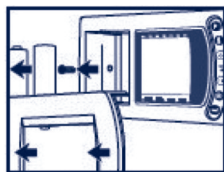

Fig 1.1
2. To remove the front cover, slide off the display cover. Unscrew the screw in the battery compartment. Lever off to remove the front housing from the base. (See Fig 1.1)